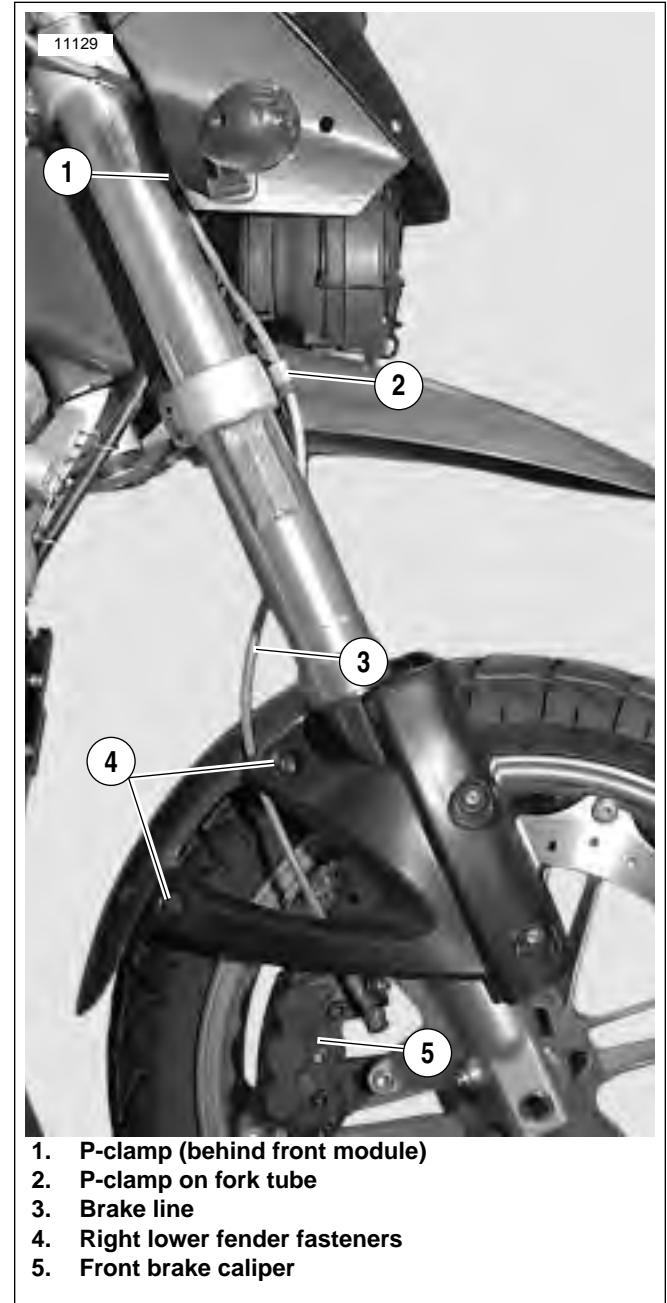

Figure 2-46. Front Brake Line
2. See Figure 2-46. Remove p-clamp (1) attaching brake line to rear of right front module. See 2.44 WINDSHIELD AND WINDSCREEN and 2.29 FRONT MODULES.
3. Remove p-clamp (2) detaching brake line (3) from right side of lower fork clamp.
4. Remove fasteners (4) on right lower fender.
9. See Figure 2-46. Install lower right fender.